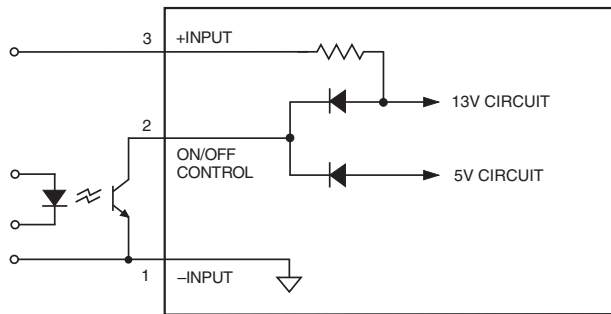

Figure 8. Driving the Negative Polarity On/Off Control Pin
**Positive** (no suffix): standard models are equipped with Positive-polarity and are enabled when pin 2 is left open (or is pulled high, applying +3.5V to +13.5V with respect to -Input, pin 1) as per Figure 8. Positive-polarity devices are disabled when pin 2 is pulled low (0 to 0.8V with respect to -Input).